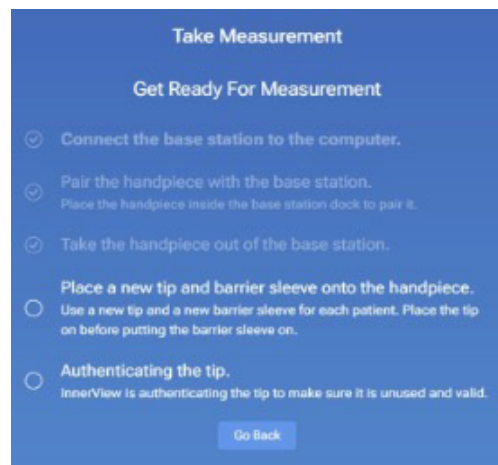

Figure 23: “Get Ready for Measurement”
4. Before taking measurements, the system will automatically verify whether the base is connected to the PC, pairing is established, the handpiece is removed from the base station, and a new tip, as well as a barrier sleeve, are placed on the handpiece. The system will validate the tip, ensuring it is new and not previously used (Figure 23).